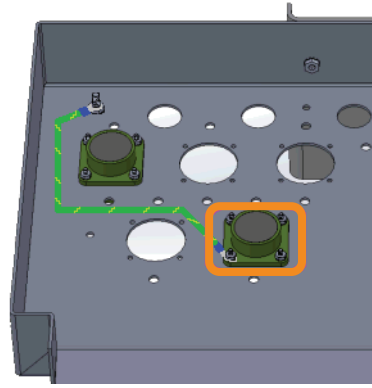

Figure 1 Install Ring Terminal
- Step 1. Install the 4-pin voltage input receptacle harness in the rightmost hole in the front row of the bottom of the cabinet. Insert the receptacle from the inside of the cabinet and three of the four screws from the outside. Install the nuts on the screws from the inside of the cabinet. See *Figure 1*.
- Step 2. Install smaller ring terminal of the green/yellow ground wire and the drain wire to the last connector screw and secure them with the last nut. See *Figure 1*.
- Step 3. Use the existing nut to connect the larger ring terminal of the green/yellow ground wire to the ground stud. See *Figure 1*.